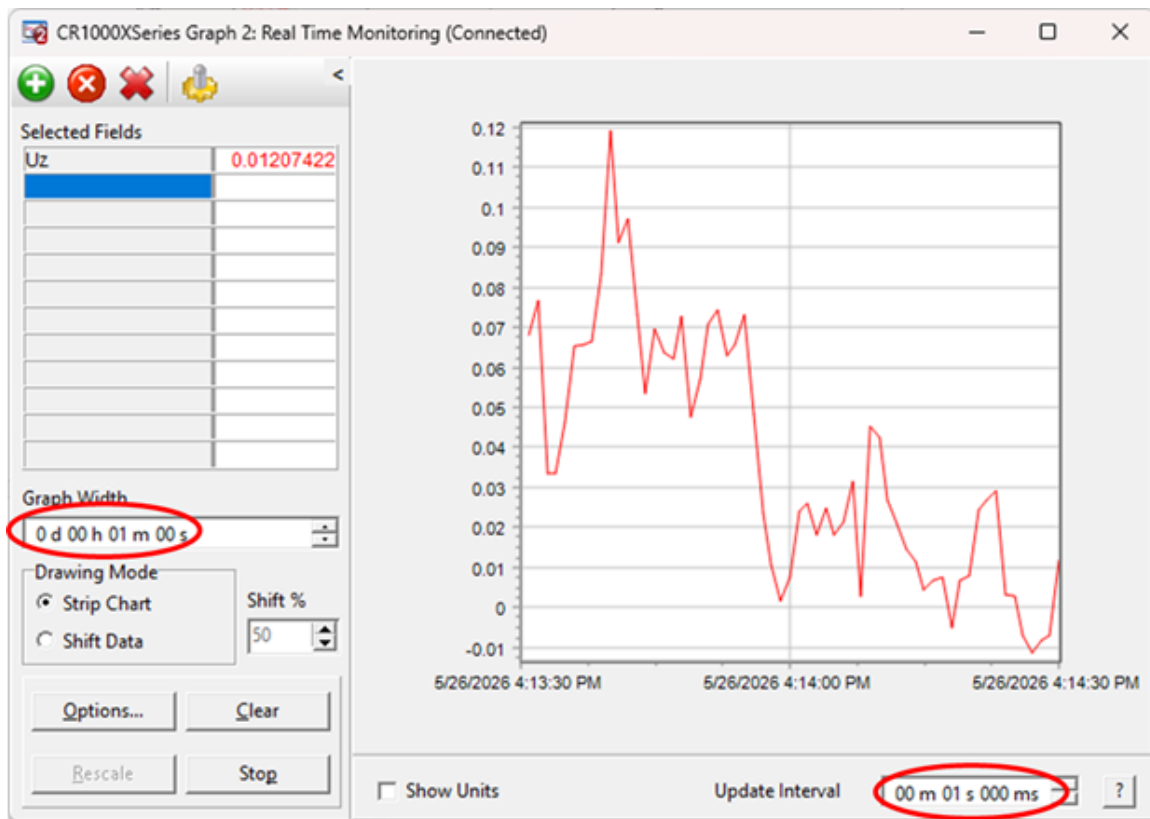

Figure 8-5. CSAT3C real-time data with 1 sec update and Uz wind component graphed
- b. On the second graph, add the  $U_z$  wind component and set the y limits from  $-0.04$  to  $0.04$  as shown in Figure 8-5 (p. 65).